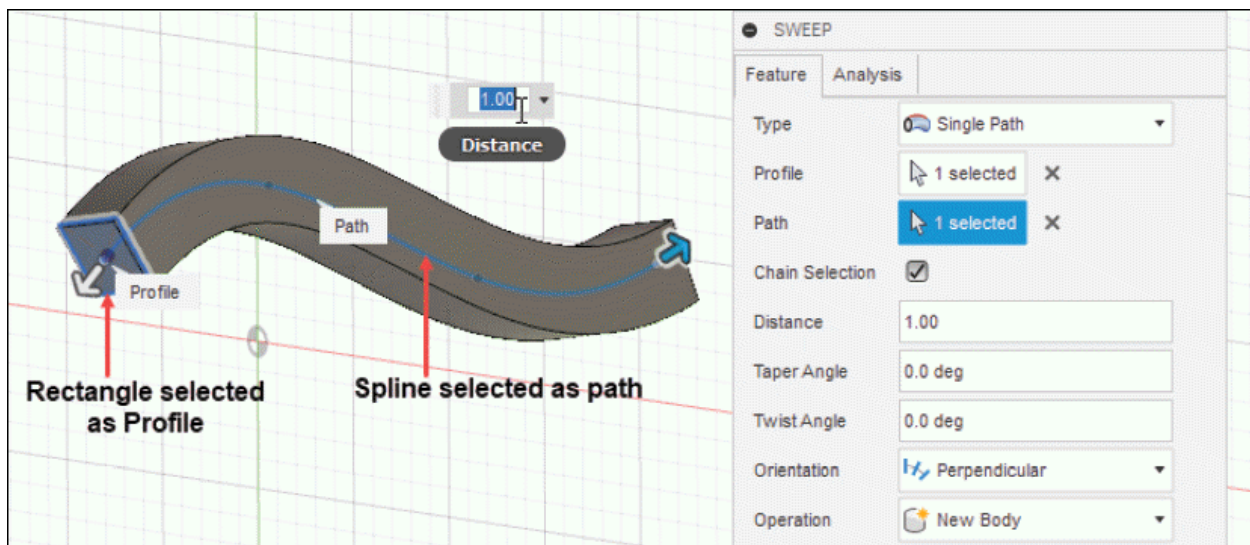

Figure-58. Selection of Sketch And Path
- Click on the **Select** button of **Path** section from **SWEEP** dialog box and select the path from the canvas screen; refer to Figure-58. Note that few more options are now available in the dialog box.